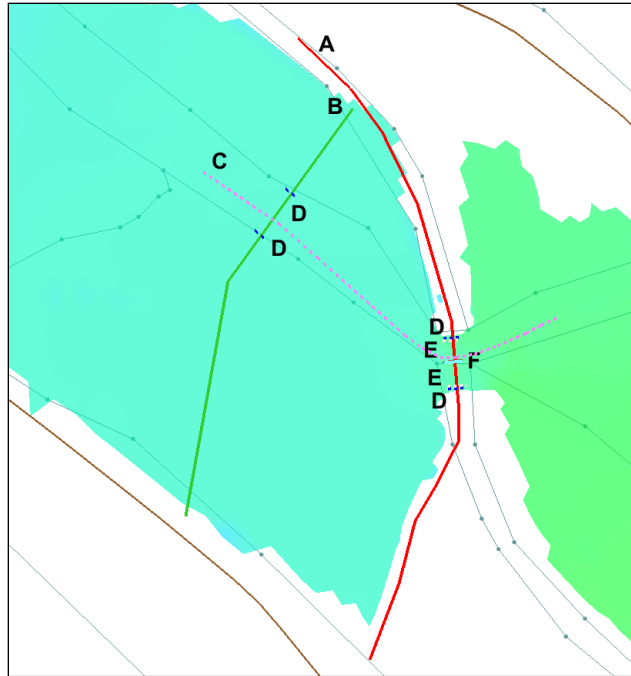

Figure 2 Bridge scour arcs labeled
In order to facilitate quick completion of this tutorial, the Annotations module has been used to create a number of different arcs that can be used as templates for the bridge scour arcs. Simply follow along them when creating each arc in order to create the arcs in the correct locations (Figure 2).
There are six types of bridge scour arcs shown in Figure 2:
3. **Zoom in**  to the area near the bridge, as shown in Figure 2.
4. Starting on the left side of the river (at the end with the “A” at the top of the screen in Figure 2) and using the annotations arc as a template, use the **Create Feature Arc**  tool to create the contracted section arc as shown in Figure 2. Double-click to end the arc.
1. Using the **Create Feature Arc**  tool, create the approach arc (labelled "B" in Figure 2) from left to right as if looking downstream. Use the annotations arc as a guide.
1. Using the **Create Feature Arc**  tool, create the centerline arc (labelled “C” in Figure 2) from left to right (upstream to downstream). Use the annotations arc as a guide.
1. Using the **Create Feature Arc** tool, create the first bank arc (lower arc labelled "D" crossing the approach arc in Figure 2). Use the annotations arc as a guide. The arc direction is not important.
2. Repeat step 1 for each of the other three bank arcs (labelled "D" in Figure 2). Use the annotations arc as a guide.
2. Using the **Create Feature Arc**  tool, create the top abutment toe arc (upper arc labelled "E" in Figure 2). Use the annotations arc as a guide. The arc direction is not important.